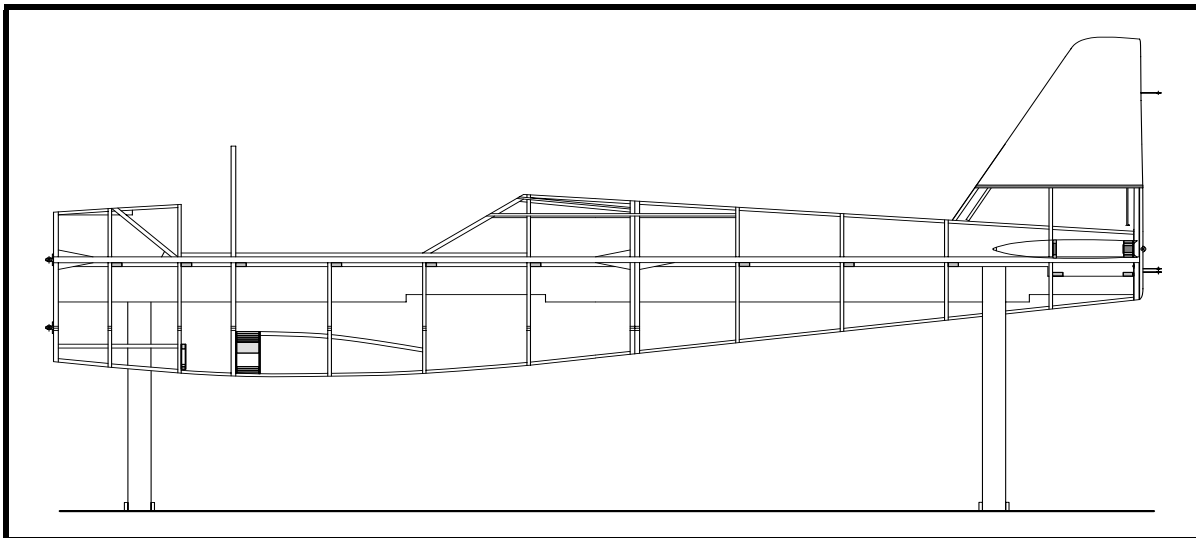

Figure 1
- ❑ Fit the 20x18 spruce strip for the top of the framing for the nose gear bay walls as shown in Drawing No. 306. See Figure 1. Do not glue this in place at this time.